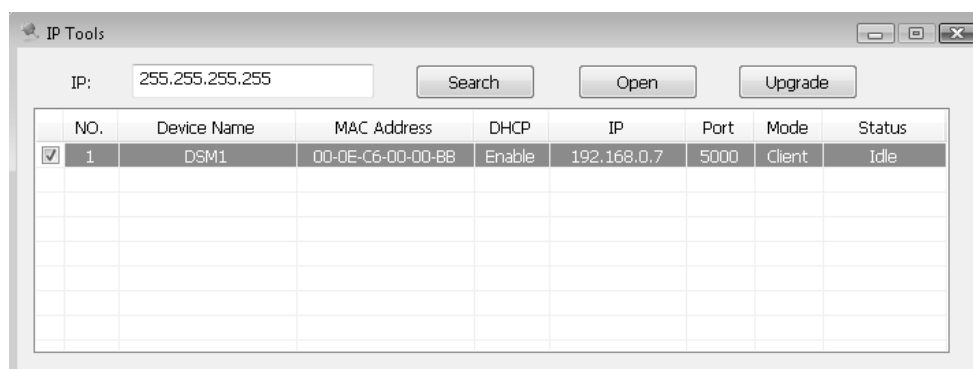

Figure 38
3. Launch the IP Tools application as referenced in Section 6.4, and locate the ObserverIP on your network. Reference Figure 38. Select the Upgrade button to begin the firmware upgrade. As shown in this figure, the IP address of the ObserverIP is 192.168.0.7. Make a note of your IP address (your results will vary).